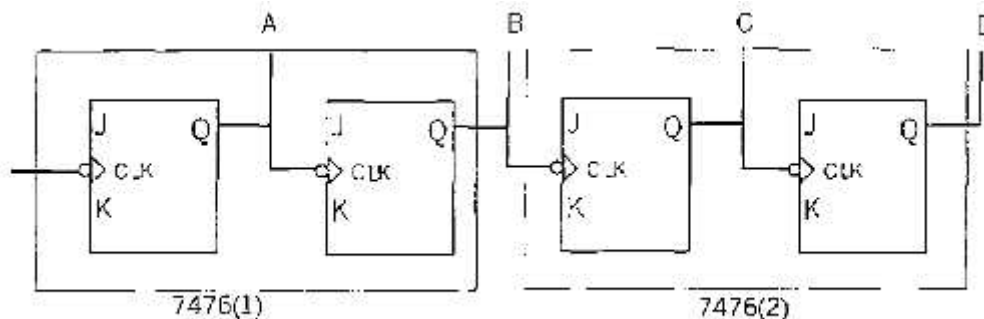

Figure 1
Assemble circuit as shown in Figure 1 using two (2) 7476 IC. Follow the instructions carefully and answer the questions accordingly. No need to do the experiment.